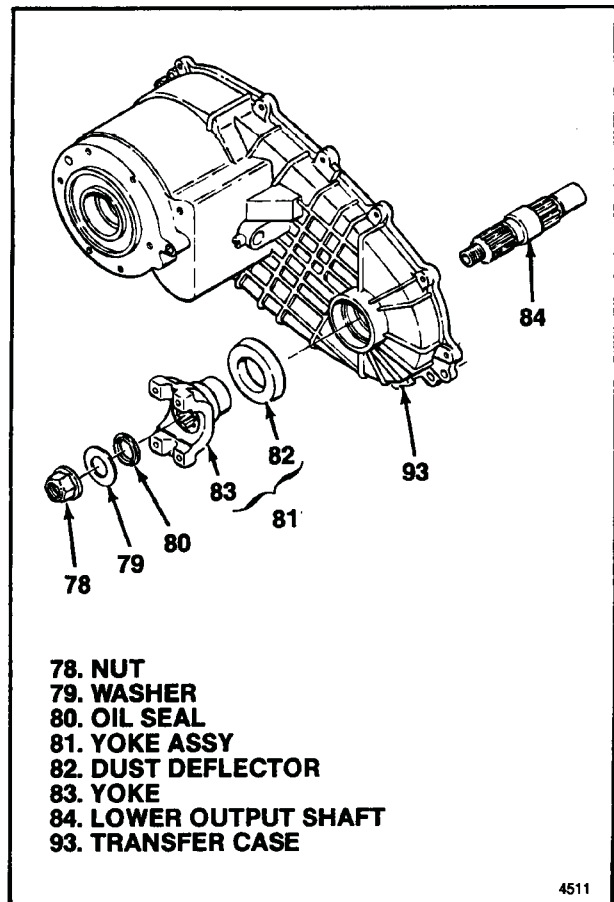

Figure 5-4. Lower Output Shaft and Yoke
5-6. INSTALLING LOWER OUTPUT SHAFT AND YOKE. To assembly as completed thus far (85 through 93), install parts as follows (see figure 5-4):
a. Position oil seal (5) over cover with side marked **OUTSIDE** up. Using suitable drift, press in oil seal until outside end is flush with bottom of chamfer in cover.
b. Fit oil seal (3) on output shaft with sealing bead facing out. Install yoke (4), washer (2) and nut (1). Torque nut (1) and nut (78, figure 5-4) on lower output shaft to 150-180 lb-ft (203-244 Nm).